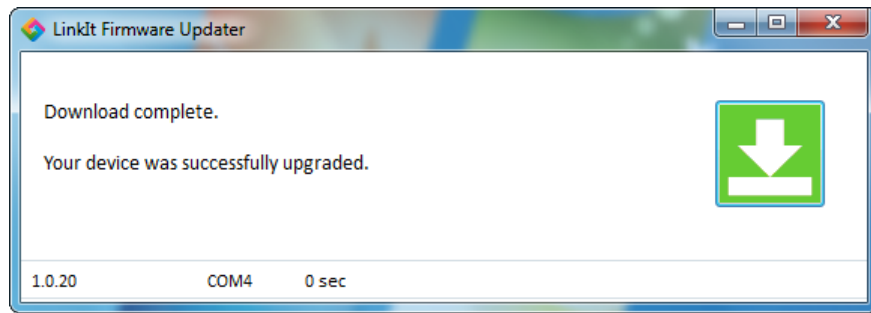

Figure 18 The firmware update is complete
- 6 After a moment LinkIt Firmware Updater will confirm that the firmware has been updated, see Figure 18.